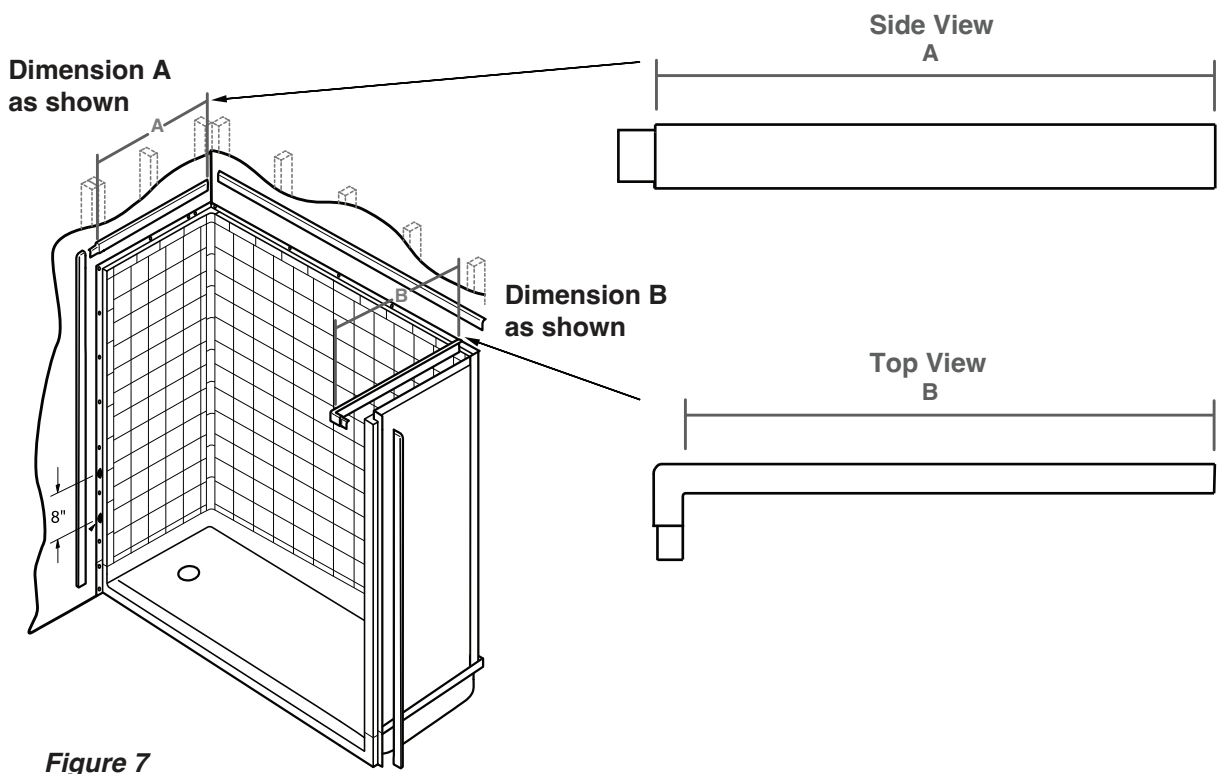

Figure 7
- 2 Trim the back piece (C) to fit on the back sheetrock ledges of the shower (See Figure 7).
- Trim Pieces (B) & (D) to Dimension A (See Figure 7) and pieces (F) & (G) to Dimension B as applicable.